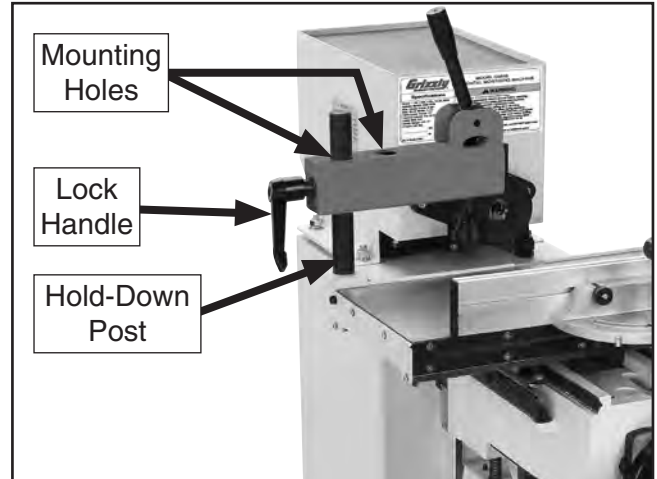

Figure 10. Placement of hold-down clamp assembly.
3. Slide hold-down clamp assembly over hold-down post using either mounting hole for now (see **Figure 10**). Tighten lock handle.